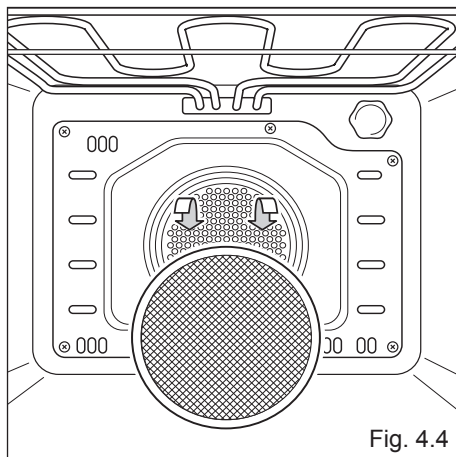

Fig. 4.4
- A special screen is provided at the back of the oven to catch grease particles, mainly when meat is being roasted (fig. 4.4).
The grease filter can be removed for cleaning and should be washed regularly in hot soapy water (fig. 4.4).